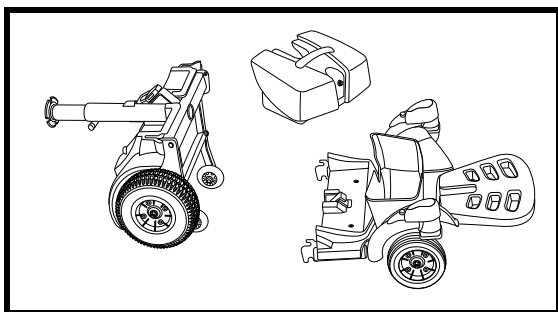

Figure 9. Rear Section Positioning
1. Tilt the Go-Chair rear section rearward onto the anti-tip wheels. See figure 9.
4. Secure the toggle latch to the locked position. See figure 9.